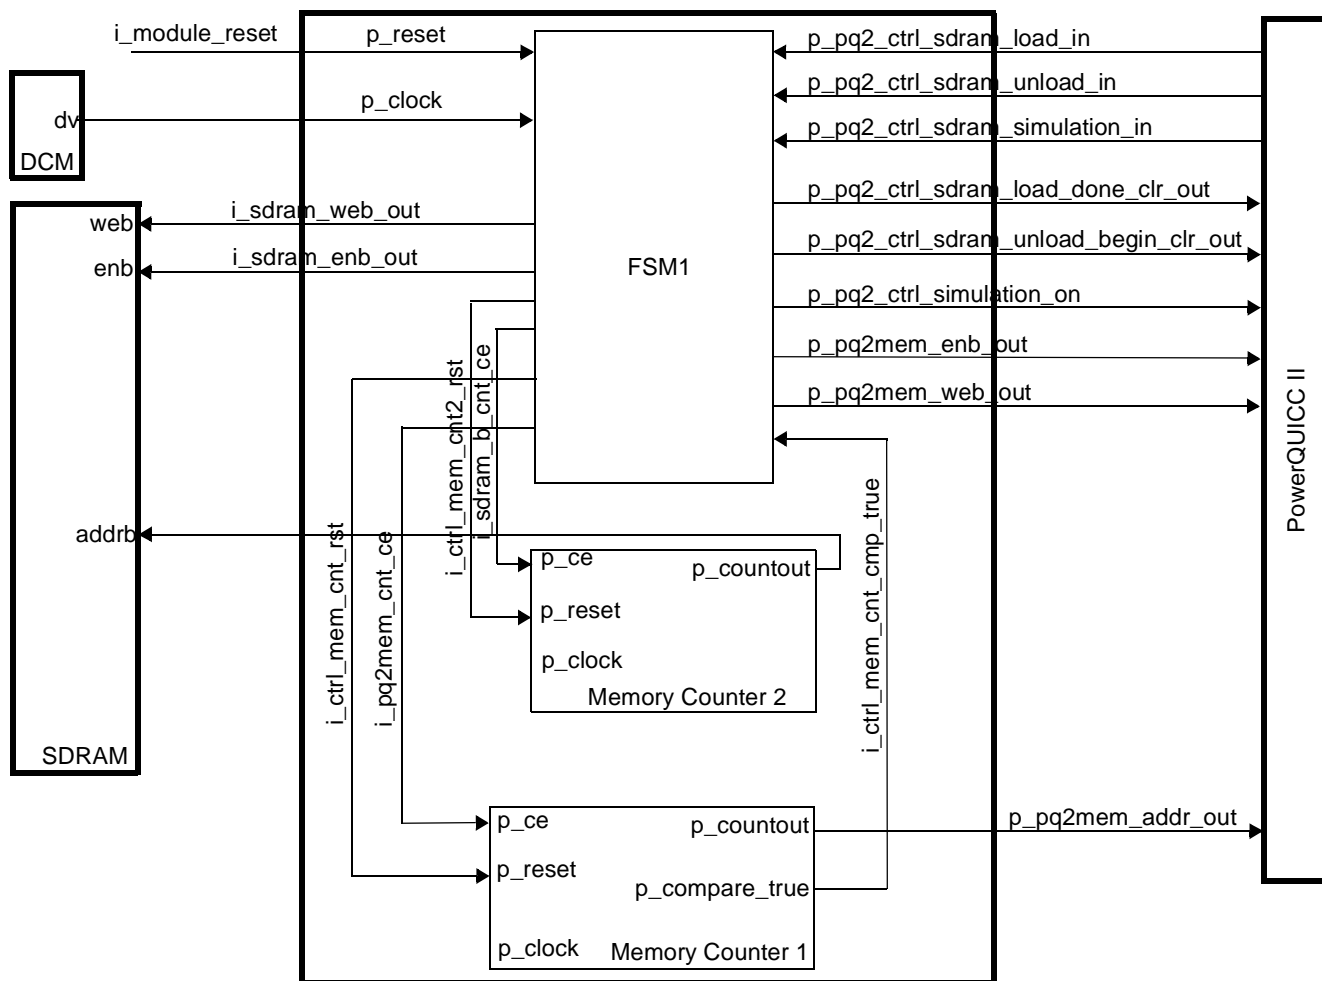
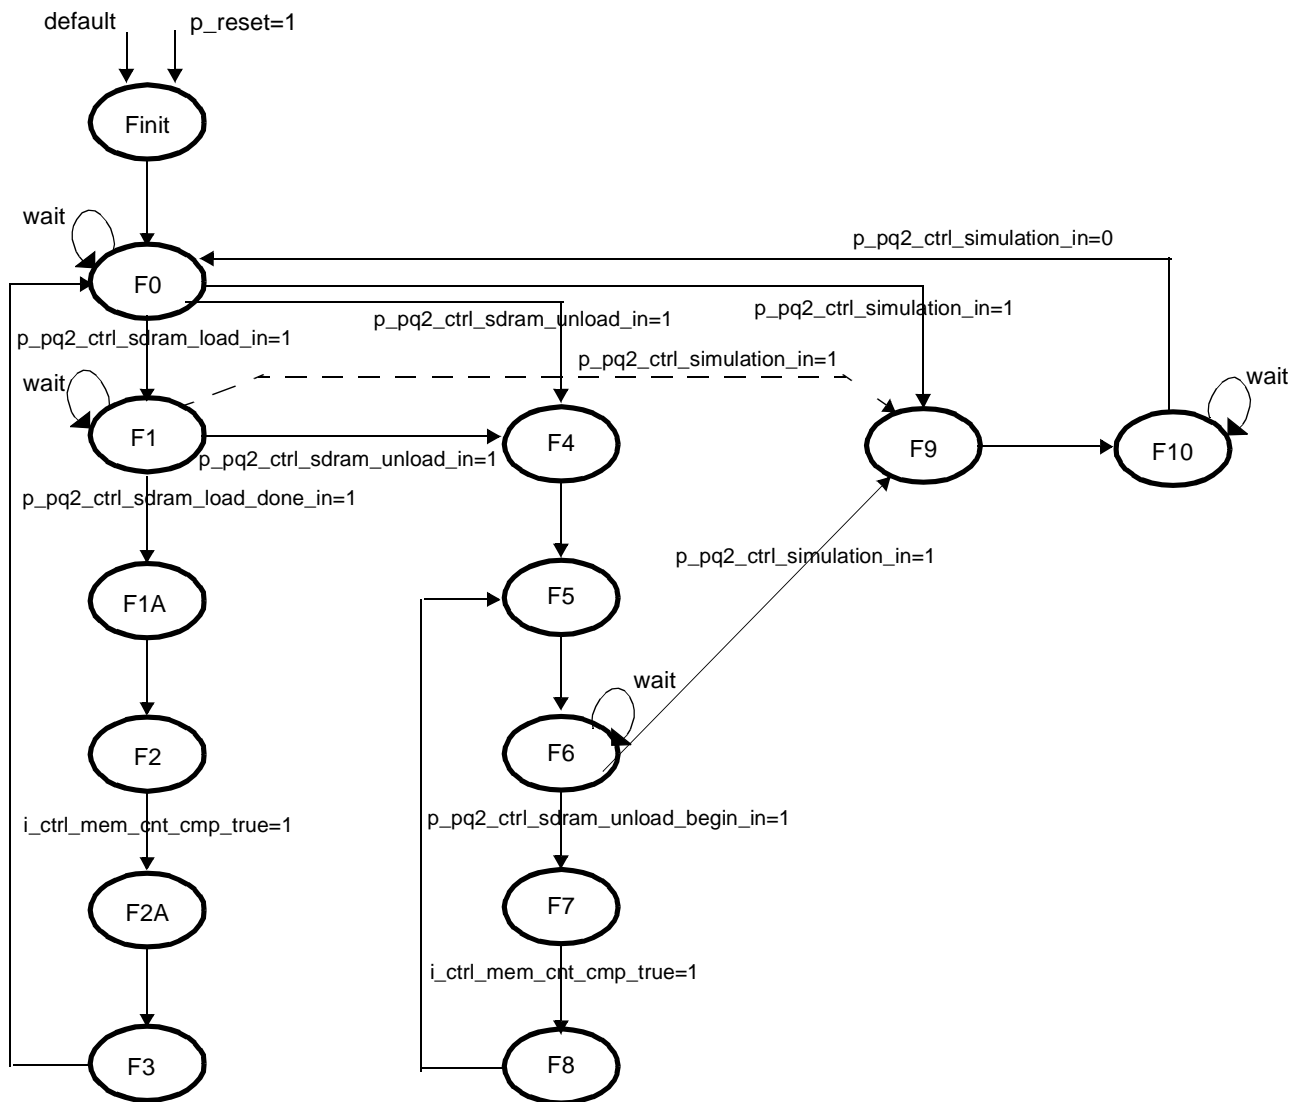

Figure 7. Control Logic Block
Figure 8. Main Control Finite State Machine (FSM1) Operation
The control logic module is the brains of the FPGA architecture, which controls all FPGA modules. It uses the PowerQUICC II interface logic to receive configuration and operation instructions from the MPC8260 device and to send the FPGA status and debug information back to the MPC8260 (see **Figure 7**). The heart of the control module is the finite state machine (see **Figure 8**). Two smaller counter blocks serve as memory controllers for the two dual-ported memory blocks. The input and output port of the control logic is as follows:
- The remaining signals control the finite state machine (see **Figure 8**).
- port `p_compare_true`. When the end of the address space is detected, this signal notifies the FSM1 state machine. When this signal is active, the SDRAM load and unload sequence in the FSM1 state machine completes, and the state machine is sent to the next state. The remaining port `p_countout` is connected to the `p_addrb_in` port in the PowerQUICC II logical block via the `i_pq2mem_addrb` signal. This is a 10-bit bus carrying an address value to address port B of the 4 KB DPRAM. For details on memory control signal generation and the state machine, refer to **Figure 8** and **Table 3**.
- `p_countout`. Connects to address port B in the internal BlockRAM of DPRAM, via the `i_sdram_addrb` signal. This is a 15-bit bus carrying address values to address port B. For details on memory control signal generation and the state machine, refer to **Figure 8** and **Table 3**.